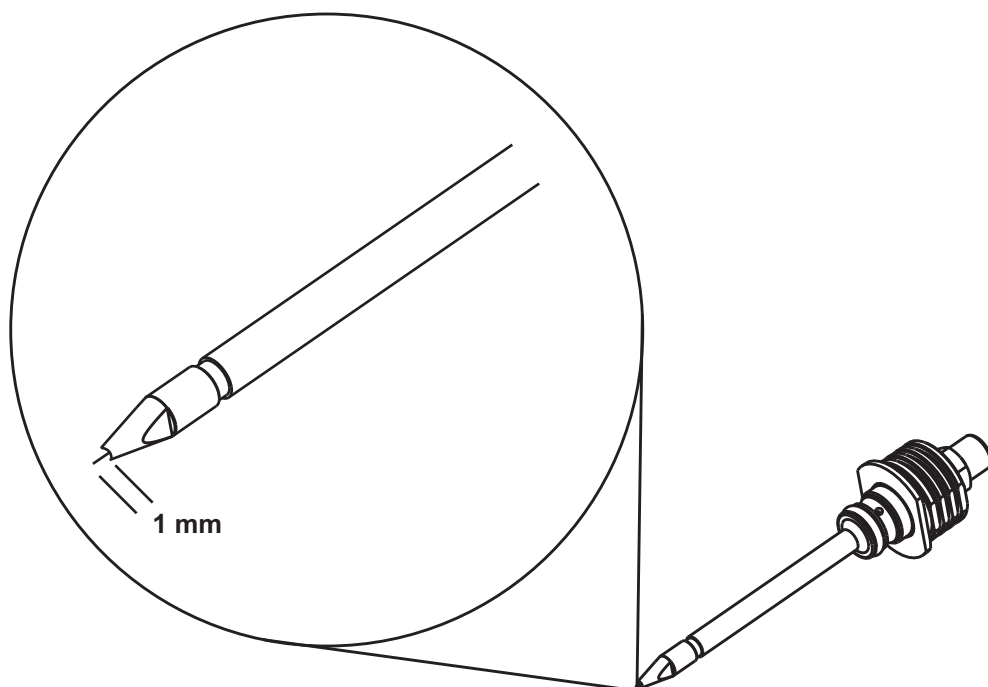

Figure 47. Proper position of the exit end of the APCI sample tube
7. Use a fused-silica cutting tool to cut the exit end of the sample tube so that approximately 1 mm protrudes past the tip of the APCI nozzle. See Figure 47.